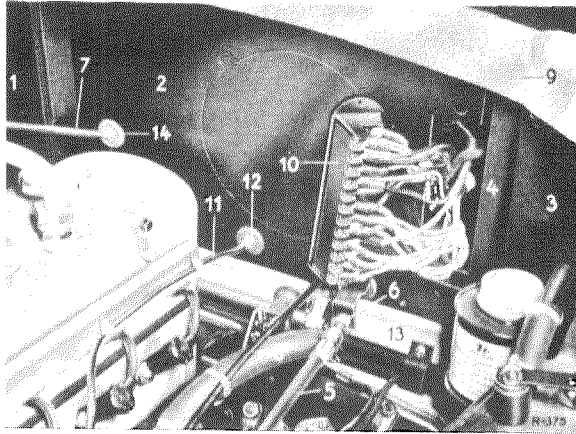

Fig. 54 — 15/4
10. By screwing in the two hexagon screws (7) with lock washers, fix the bracket (12) for the contactor (5) with the two flash signal mechanisms (8) and (9) to the bracket (6).
11. Take the cover off the fuse box. Unscrew the two fixing screws for the fuse box (10) and pull the fuse box out forward (Fig. 54 — 15/4).